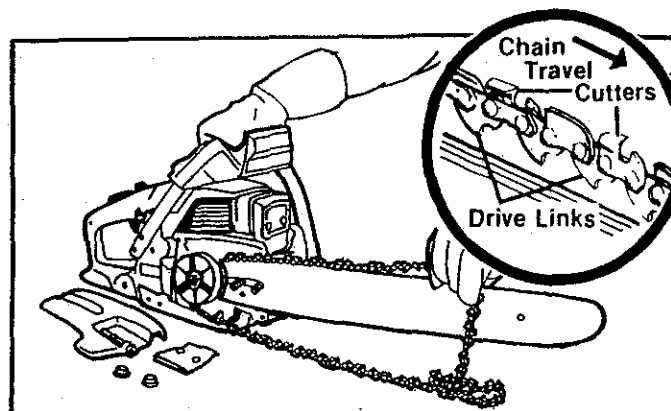

Figure 11
3. Hold chain with cutters facing as shown in Figure 11.
7. Start at the top of the bar and fit the chain drive links into the groove around the Guide Bar. Figure 11 .